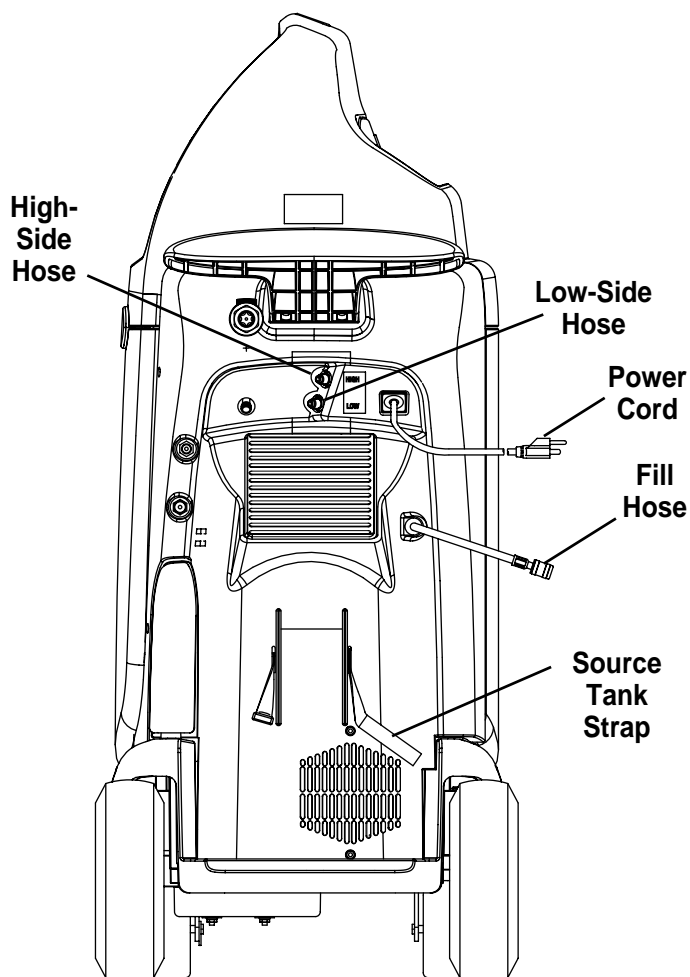

Figure 3
1. Connect the service hoses to the unit, and press **START / YES**. See Figure 3.